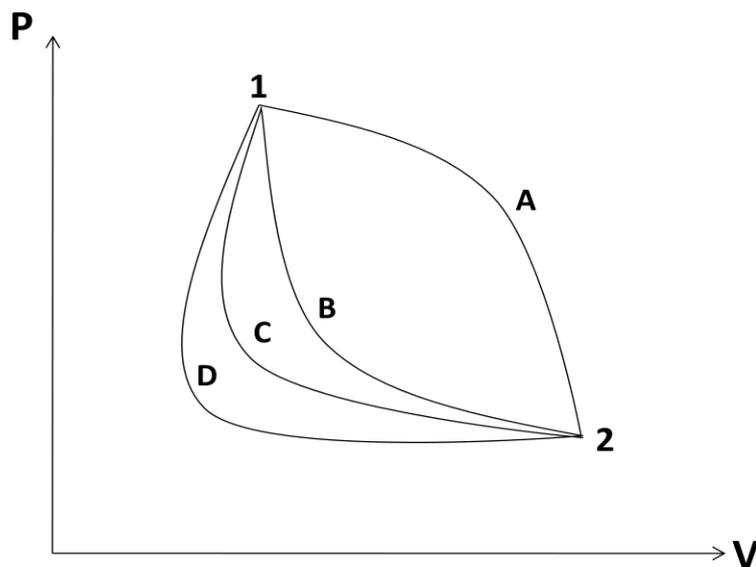

Fig. 2.3 Cyclic process with different paths
- Consider a closed system which changes from state 1 to state 2 by path A and returns back to original state 1 by one of the following path as shown in Fig.2.3: (i) 2-B-1 (ii) 2-C-1 (iii) 2-D-1